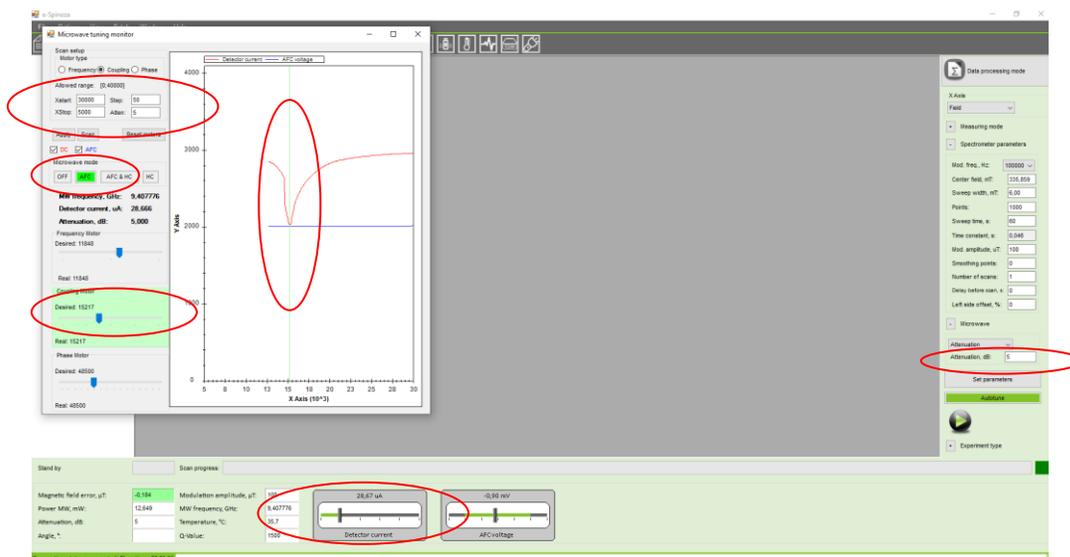

Figure 6.9
1. After completing the frequency tuning select the motor type mark '**Coupling**' and click the **AFC** (auto frequency control) button - it gets green (Figure 6.9);